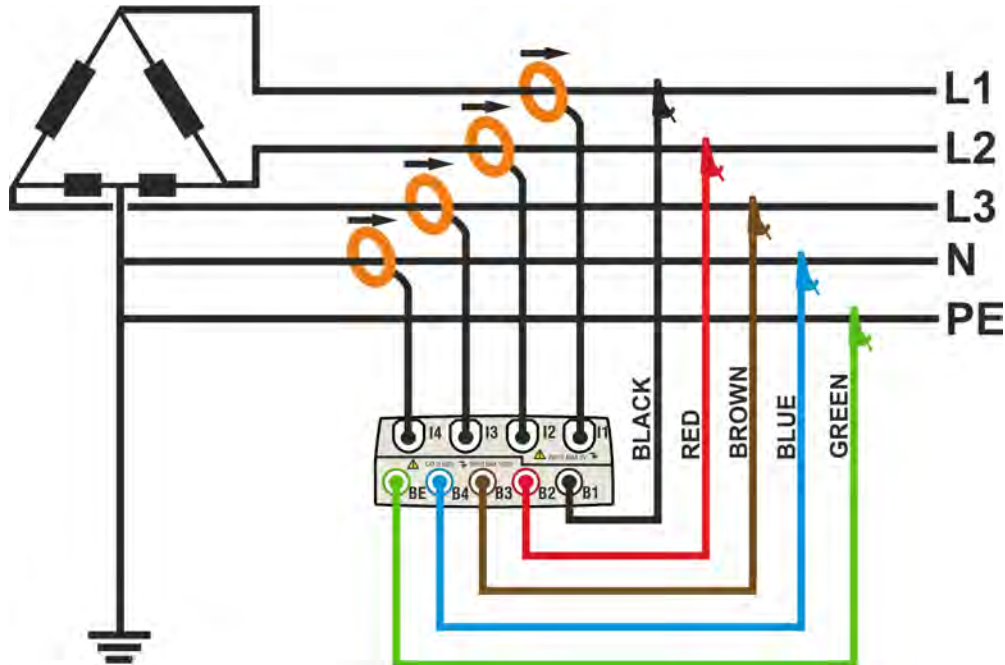

Fig. 138: Meter connection in a three phase 3PHL system – ENG type
2. Connect voltage test leads on Phases L1, L2, L3, N and PE cables considering the colours as shown in Fig. 138. **Verify the result “123” at display relative to a correct phase sequence indication** (see § 5.2.1) and perform the corrections if necessary.
3. Connect the transducer current clamps on Phase L1, L2, L3 and N cables as shown in Fig. 138 respecting the clamp’s arrow direction indicating the current standard sequence from generator to load. **On Real Time Values’ section screens (selecting a 3 wire system preliminarily) always verify the positive value of Active Power and the power factor relative to load which should be normally inductive** before starting a recording. Reverse the clamp by 180 degrees on cables in case of negative readings.